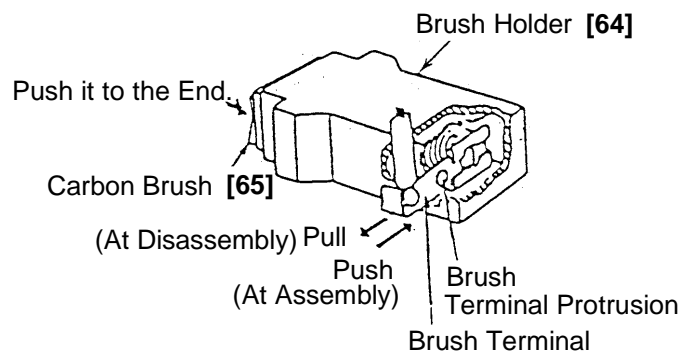
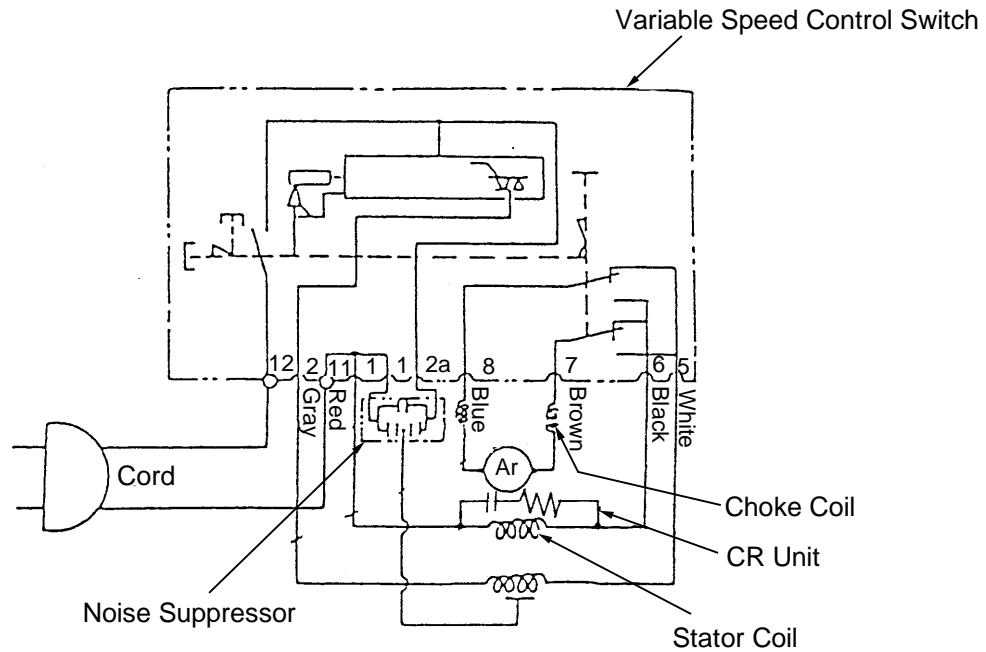
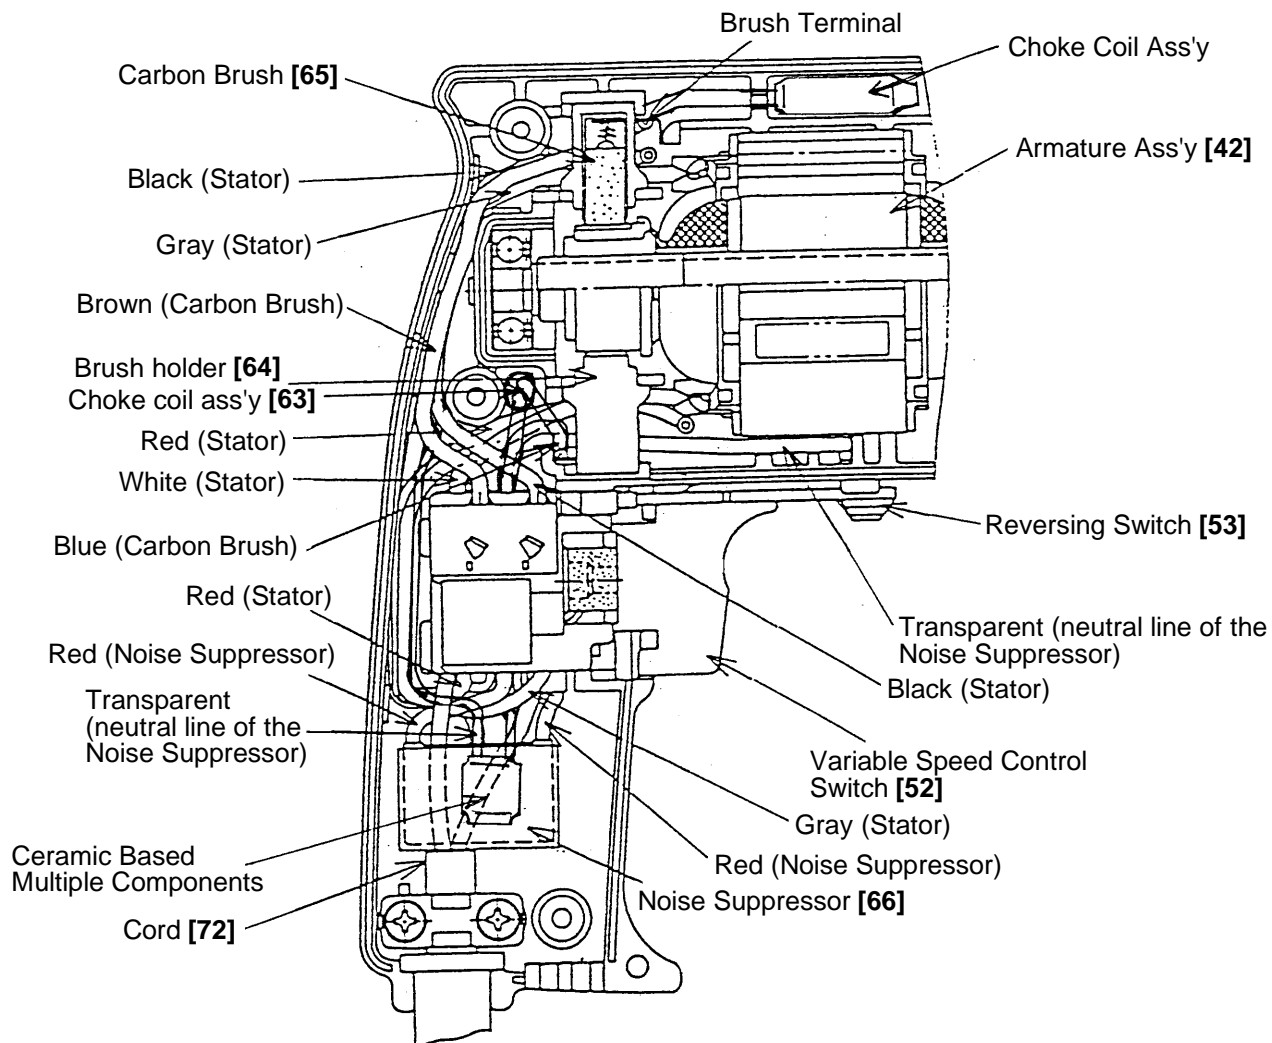

Fig. 3
Fig. 11
Fig. 13 Wiring Diagram
As shown in Fig. 3, push the Carbon Brush [65] fully into the Brush Holder [64], and disconnect the brush terminals attached to Internal Wires (B) [54], [55] from the Carbon Brush [65].
To assemble, push the Carbon Brush [65] fully into the Brush Holder [64] and insert the brush terminals of Internal Wire (B) [54] and [55], as shown in Fig. 3 on P. S2. Then, holding the Carbon Brush [65], insert the Brush Holder [64] into Housing (A). Finally, ensure that internal wiring is correct as shown in Figs. 11 and 12, and that the internal wires are not in danger of contacting the Armature Ass'y [42]. When reassembling the Housing, be careful not to pinch the internal wires between Housing (A) and Housing (B). (See Fig. 13)